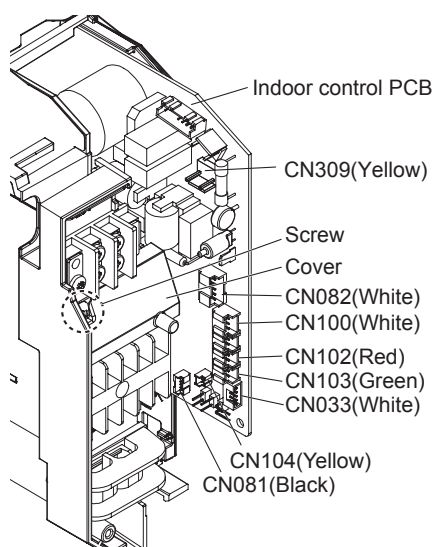

Fig. 7-7
- Disconnect the CN033 (White), CN103 (Green), CN102 (Red), CN100 (White), CN082 (White), CN104 (Yellow) connectors from the indoor control PCB and take out the indoor control PCB. (Fig.7-7)
- Connect the 3P connector (yellow) of the power cables (supplied part ②) to the CN309 OP1 connector (yellow) on the indoor control PCB. (Fig.7-7)
- Connect the 5P connector (black) of the signal output cables (supplied part ③) to the CN081 3WAY connector (black) on the indoor control PCB. (Fig.7-7)
- Connect the removed connectors to their original positions on the indoor control PCB and insert the PCB. (Fig.7-7)
- Remove the screw and the cover.(Fig.7-7)
- Attach the screw and the cover.(Fig.7-7)